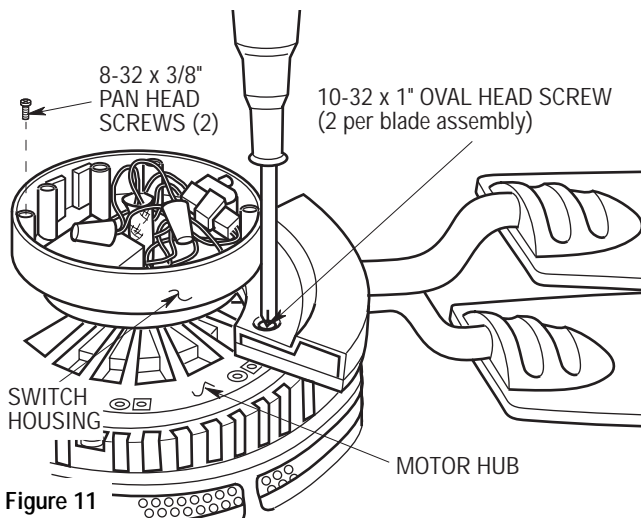

Figure 11
- 17. Attach one blade assembly to the motor hub using two 10-32 x 1" oval head screws (supplied) (Figure 11). Do not tighten completely at this time. Install four remaining blade assemblies in the same way. Gently snug all flange screws to the motor hub, working around the hub in a clockwise sequence. Next, securely tighten all flange screws, again working in a clockwise sequence. Failure to follow this procedure could result in fan wobble. This completes the blade installation.
- 18. Partially screw two 8-32 x 3/8" pan head screws (supplied) into the threaded holes in the switch housing (Figure 11).